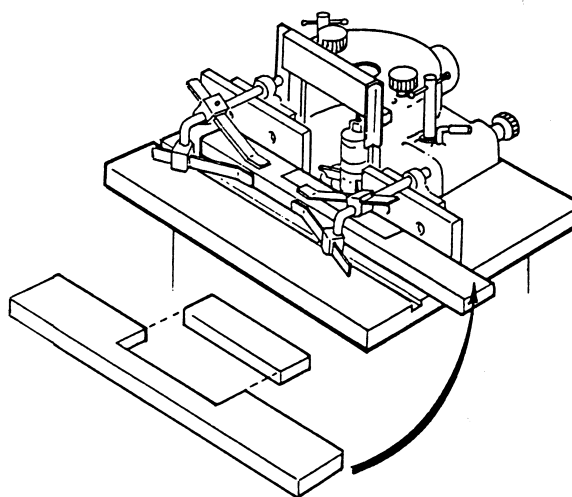

Figure 28
When edge shaping, never attempt to hand guide any stock less than 12 inches long, or narrower than 3 inches without the use of a special guide as shown in Figure 28.
1. Use the hold-ins and hold-downs as shown in Figure 28 to firmly hold the workpiece down and against the fence. If workpiece is too wide for the hold-ins to be used, clamp a scrap board to the table to substitute for the hold-ins.